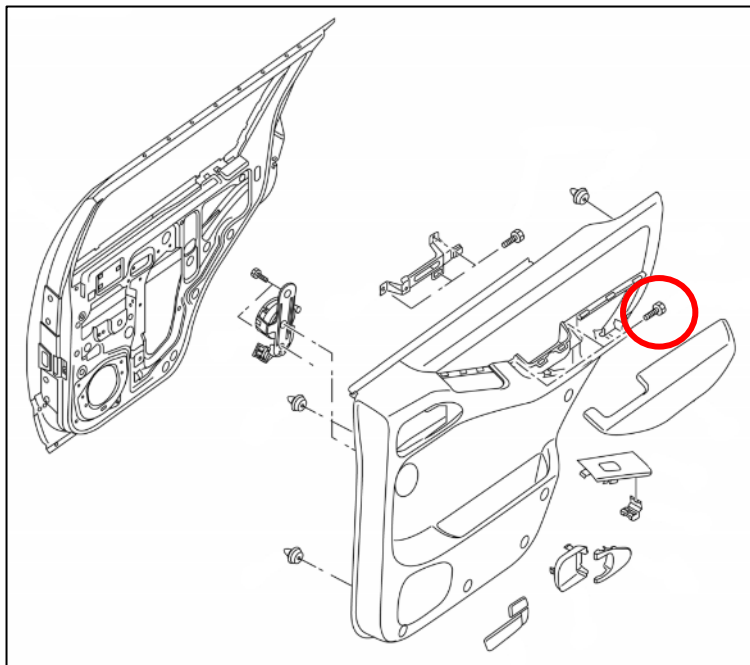

Figure 85
6. Remove the (2) two bolts securing the Door Panel to the Door. *Figure 85.*